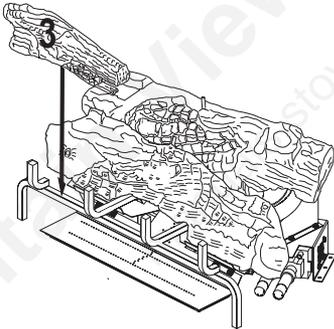

Figure 46 - Installing Log # 3
- Place the front left log (#3) onto the base assembly between the middle log (#2) and the grate fingers. The back of the front left log (#3) will rest against the front of the middle log (#2). The notch at the end of the front left log (#3) will fit around the grate bar. See Figure 46.